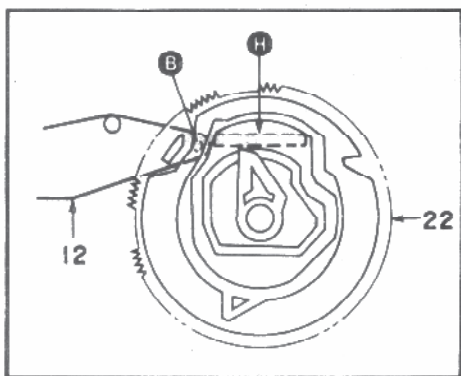

Fig. 13
1-11) The FD GEAR (22) is held in position of Fig. 13 by the pin (B) of the FD ARM, and the heads on the SUB-CHASSIS are held in the PLAY/REC position.